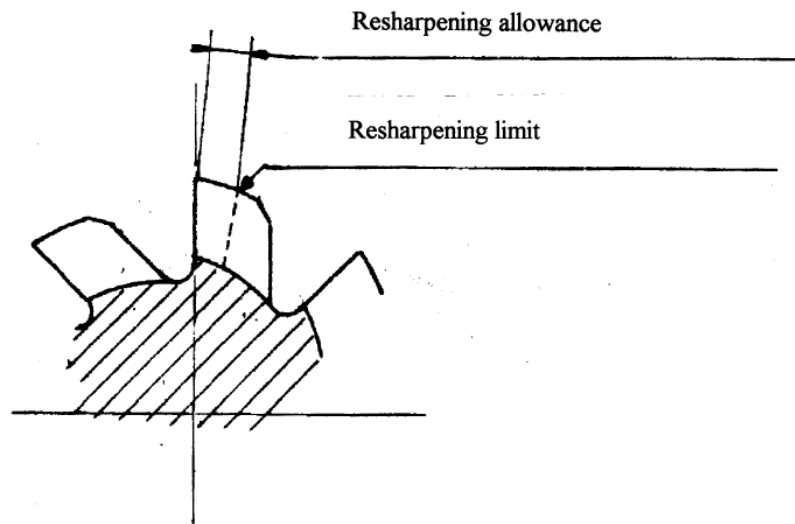

Fig. 7 -
**GSHOB** determines the required kinematic relief and the corresponding cam height. It also determines the resharpener allowance measured on the tip circle (fig. 7). This allowance is the length between the hob when new and when it reaches the worm diameter which should never be overpassed.